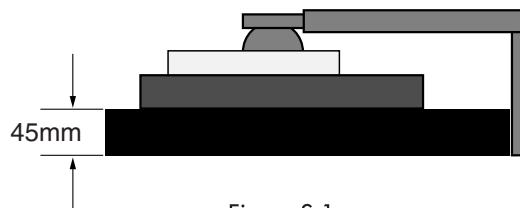

Figure S.1
3. Place monitor face down on a non-abrasive surface. (Place the screen on a 45 mm / 1.8 inch platform so that the stand is parallel with the surface.) (Figure S.1)